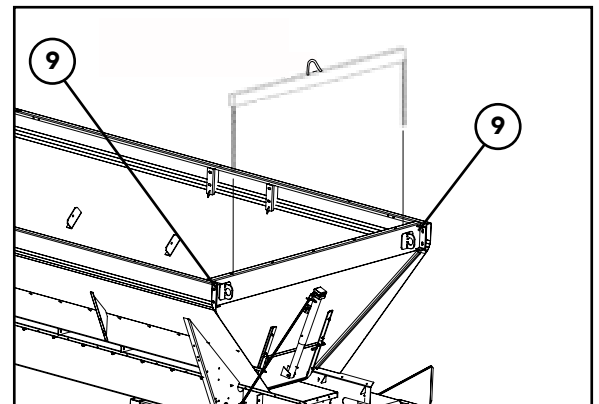

Figure 3
- 6. Figure 3 - Support endgate by attaching a hoist to the lift hooks. Remove hardware (9) from both sides of the endgate and carefully remove from the spreader.